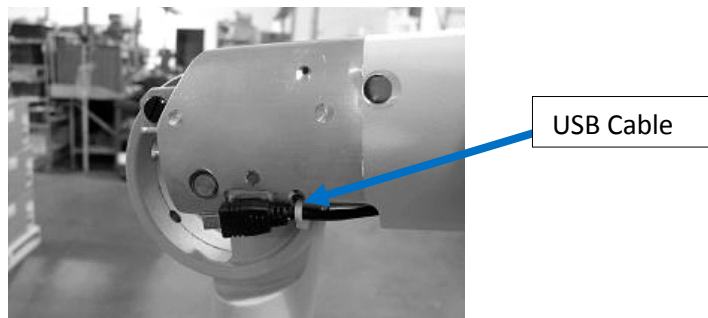

Figure 21: Location of the Cable Tie that holds the USB cable
2. Locate the USB cable on the tube head end of the Articulating Arm – see Figure 21.